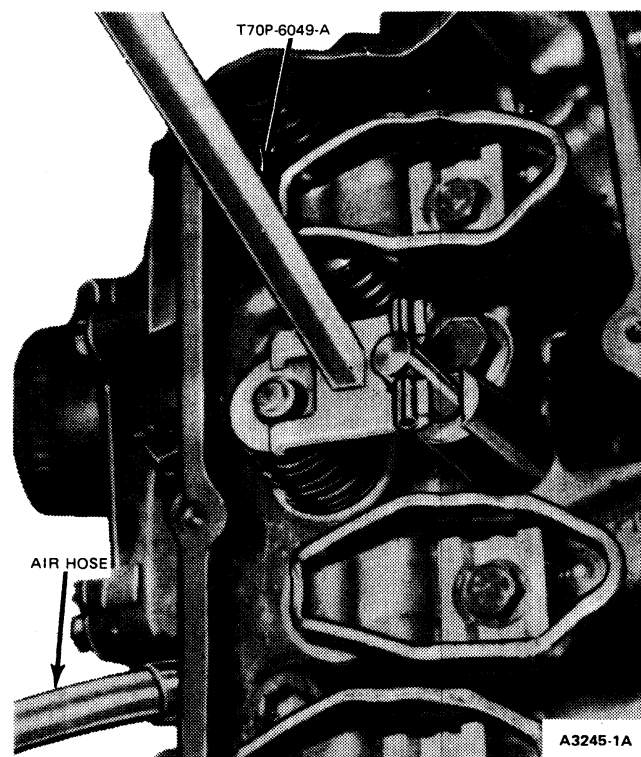
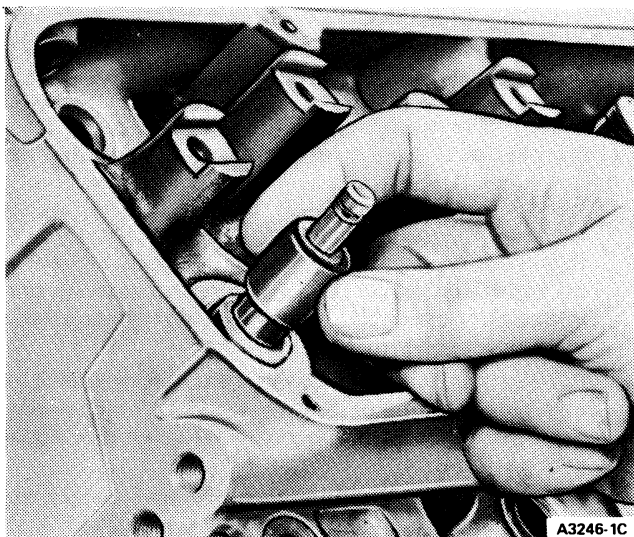

FIG. 11 Compressing Valve Spring—On Bench
FIG. 12 Removing or Installing Valve Stem Seal
6. Install Tool T70P-6049-A or equivalent (Fig. 11) and compress valve spring. Remove retainer locks, spring retainer, and spring. Remove and discard valve stem seal (Fig. 12). **If air pressure fails to hold valve in closed position, valve damage affecting sealing is indicated. Remove and inspect cylinder head assembly.**
2. Lubricate the valve stems with heavy engine oil SE. Install new valve stem seal on both intake and exhaust valve stem using a 5/8 inch deep wall socket and a light hammer or mallet to seat the seal on the valve stem (Fig. 12). Set spring and retainer over valve stem. Compress valve spring (Fig. 11) and install retainer locks. Release spring and remove tool.